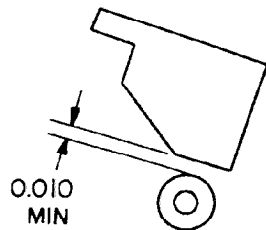

Fig. 12B.
2. With the contactor(s) de-energized and the solenoid in the energized position, the gap between the needle bearing and the latch block should be 0.010-inch minimum. See Fig. 12b.